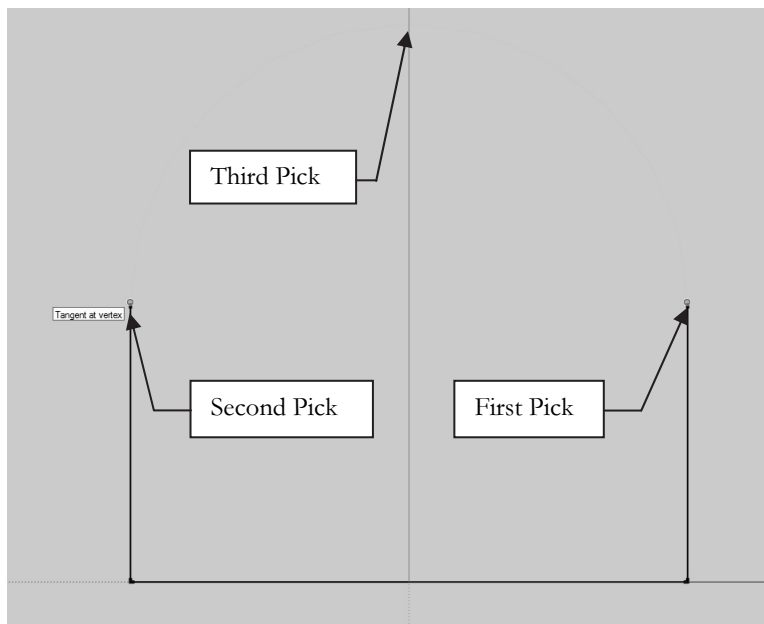

FIGURE 4-2.14 Sketching an arc
42. Draw the three orthogonal lines shown in Figure 4-2.14.
- a. Pick the three points shown in Figure 4-2.14.